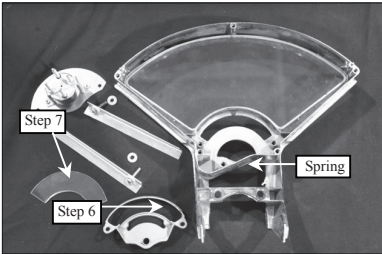

Figure 5
Step 6: For automatic transmission, remove gear selector bracket (2 screws) and disengage spring. (Figure 5)
Step 7: Remove gear selector glass. (Figure 5)